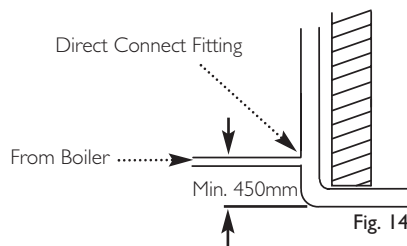

Fig. 14
- ii) to an internal or external soil and vent pipe - Fig. 14.